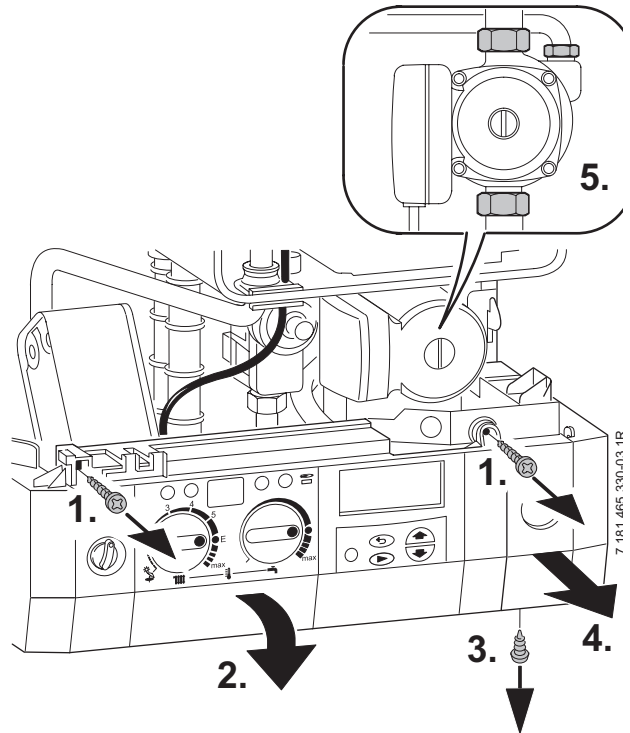

Fig. 55
- Remove two switchbox fixing screws (1.). Refer to fig. 55.
- Unscrew the pump union nuts (5.). Refer to fig. 55.
- ▶ Lower the control panel. Refer to fig. 55.
- ▶ Lower the facia. Refer to fig. 55.